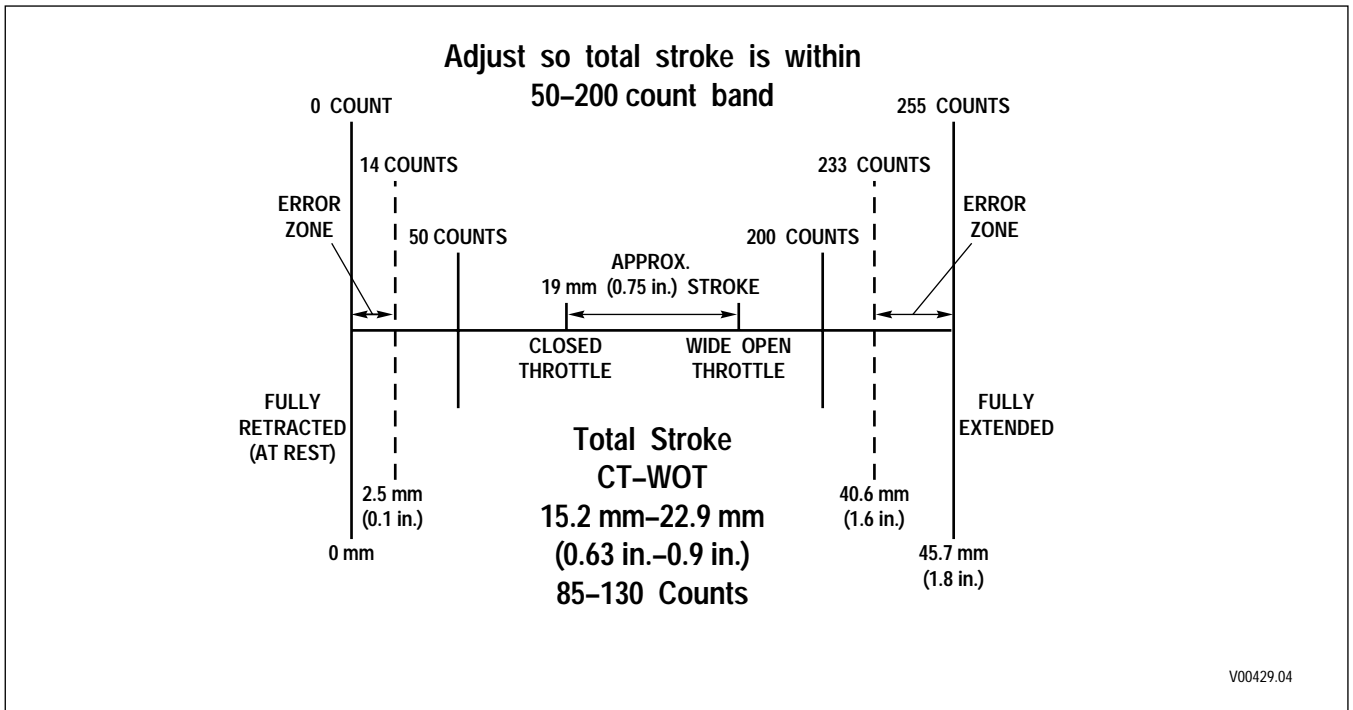
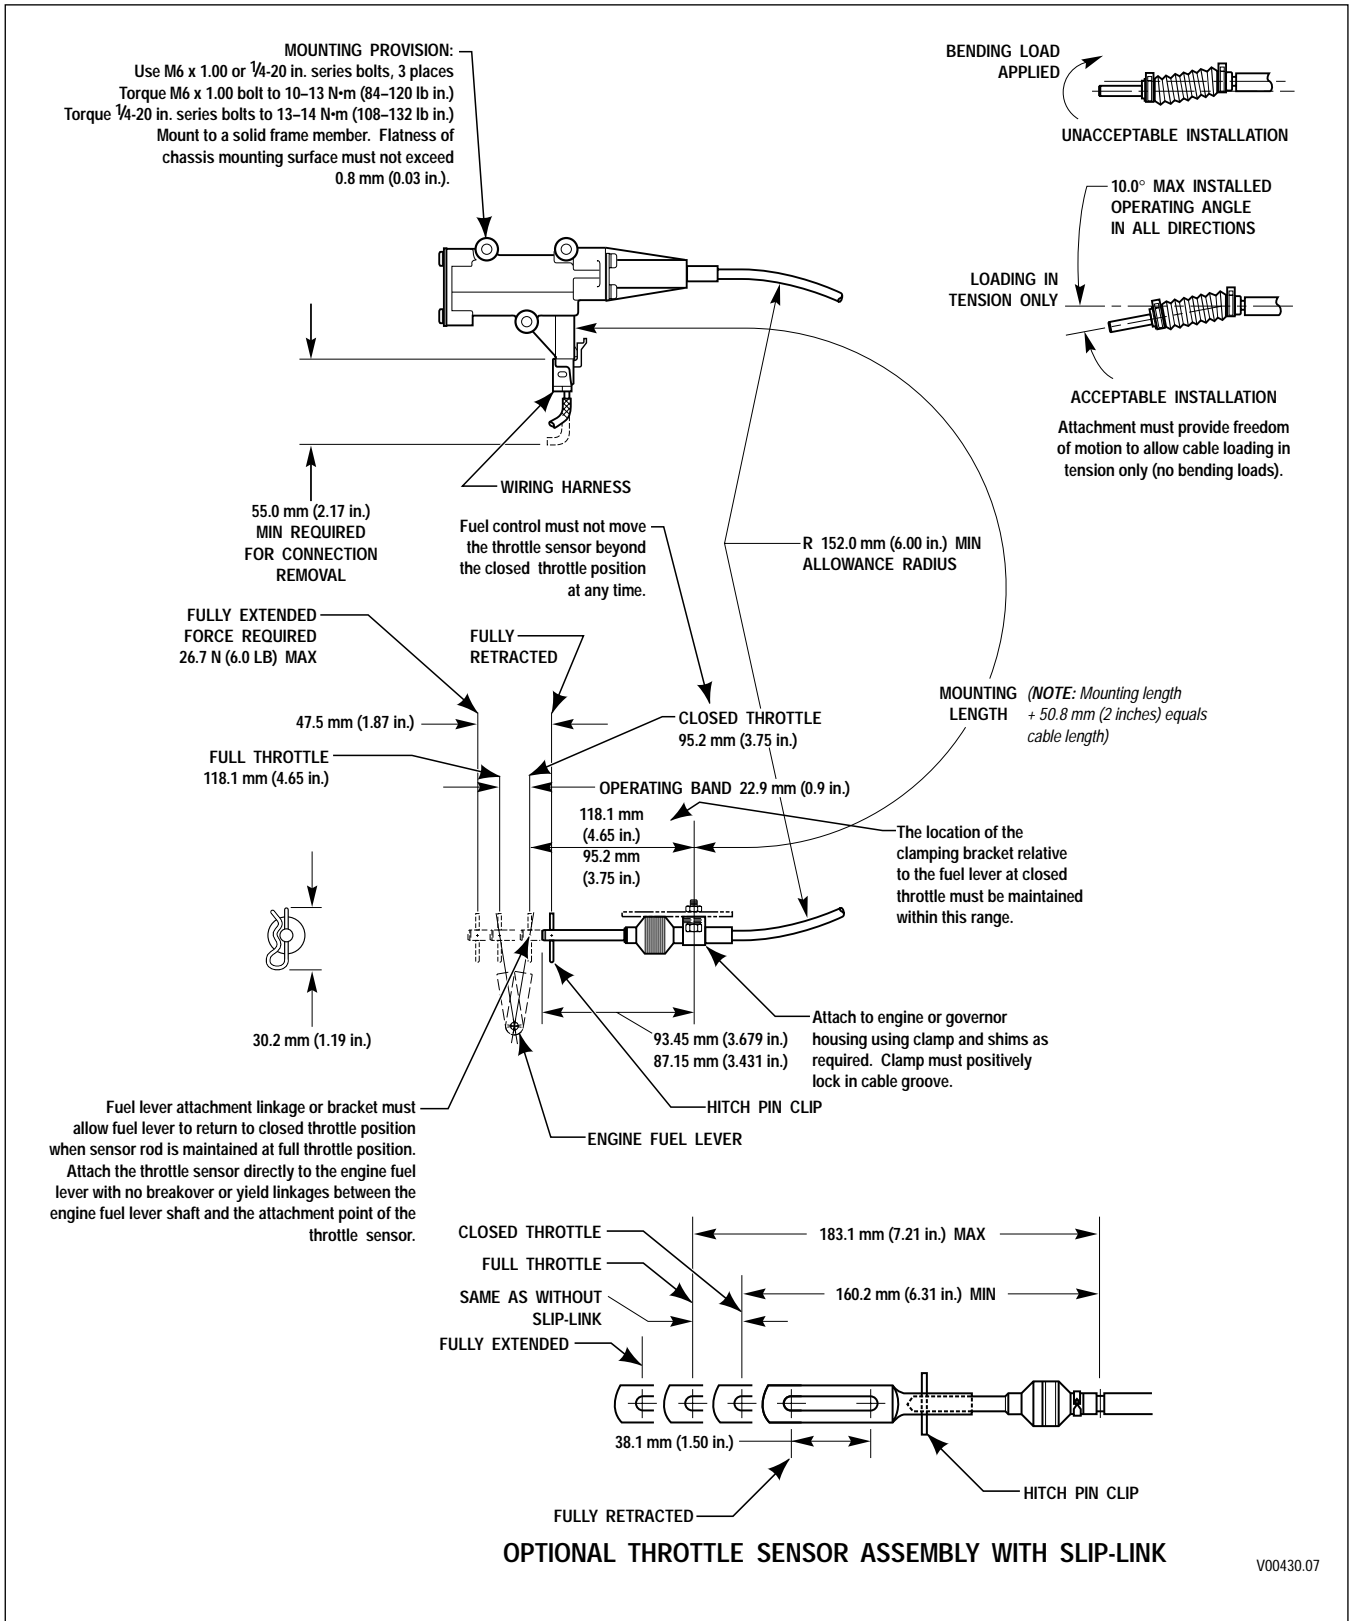

Figure F-2. Throttle Position Determination Diagram
Figure F-3. Throttle Position Sensor Adjustment
2. Each position gives a different voltage. The ECU then converts the voltage to counts. Each count corresponds to approximately .179 mm (.007 inch) of throttle sensor movement. Figure F-2 diagrams the counts and throttle movement relationship.
**NOTE:** *After replacing or adjusting the throttle position sensor linkage, the technician should use the diagnostic tool to clear the throttle calibration. Go to the DDR selection menu and locate ACTION REQUESTS. Select RESET THROTTLE CALIBRATION and ENTER to set the 0 percent throttle counts. After the idle counts are established, the throttle should be moved to the Full position to establish the full or Wide Open Throttle (WOT) position (100 percent). The full throttle counts will be the same as the idle counts until the throttle is moved. The full throttle counts are set when maximum travel is reached so stopping before actual full throttle will set the 100 percent point artificially low. Refer to Figure F-2 for proper counts and percentage. Refer to Figure F-3 for illustration of throttle position adjustment.*
When properly installed by the equipment manufacturer, the TPS should not require adjustment. Confirm that the throttle sensor is installed to manufacturer specifications before adjusting the throttle position sensor. The idle count should be 50 or higher and full throttle count 200 or lower. The TPS is self-calibrating meaning there is no optimum closed throttle or wide open throttle count value. As long as the counts are within the 50 to 200 range, the TPS is set properly. Total stroke of 85–130 counts must be maintained. Watch the movement of the throttle sensor as the controls move it through its full stroke. Be sure there is no misalignment or obstruction to smooth movement through the full stroke. Make certain the idle and full throttle positions are not in the error zones (refer to Figure F-2). The error zones occur when the idle position is less than 14 counts, or when the full throttle position is more than 233 counts. When idle or wide open throttle positions are in the error zones, Codes 21 12 and 21 23 occur, respectively. These codes cause the transmission to shift as if the throttle is fully depressed (100 percent throttle) affecting shift quality and causing decreased fuel efficiency. Code 21 XX may be caused by a short or open circuit in the chassis harness or by incorrect voltages. If this occurs, refer to Code 21 XX chart.